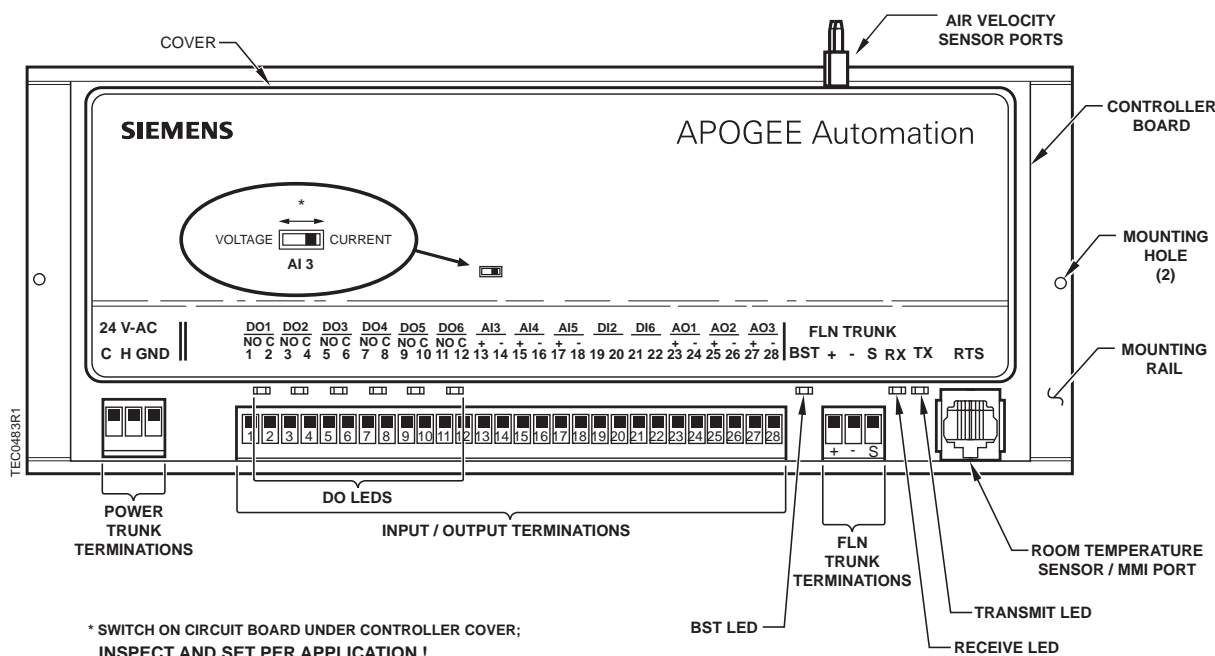

Figure 2. VAV with CO2 Alarming, HW Reheat and Radiation Valve Control.
1. Plug the MMI into the Room Temperature Sensor port. See Figure 2.